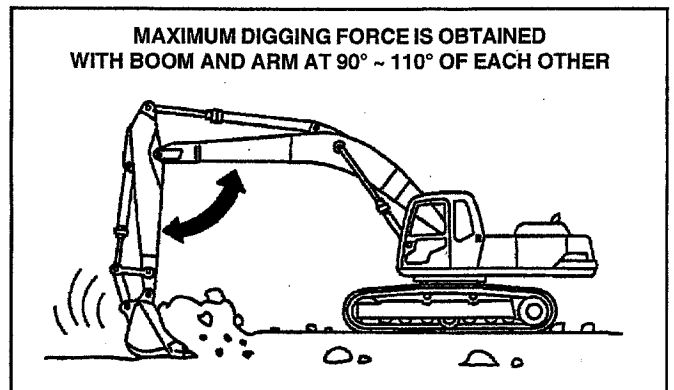

FIGURE 3.44
D. Maximum Digging Force Position- FIGURE 3.44